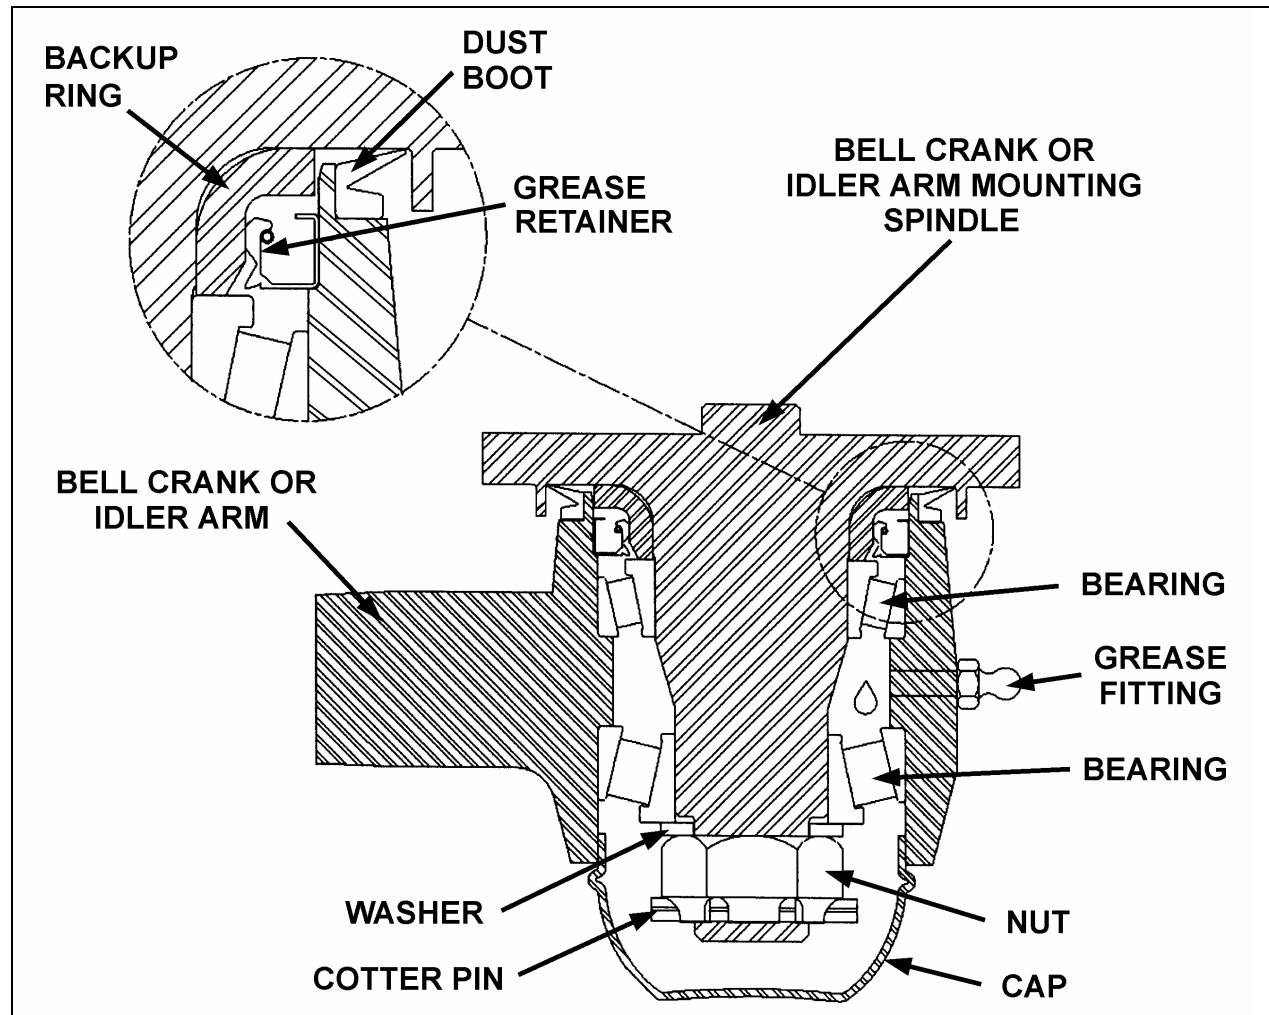

FIGURE 13: BELL CRANK AND IDLER ARM
2. Remove the cap (Fig. 13).
3. Remove the cotter pin, nut and thrust washer. Remove bearings, grease retainer, backup ring and the bell crank or idler arm from its mounting spindle (Fig. 13).
2. Install grease retainer and bearing in bell crank or idler arm eye (Fig. 13).
Note: Install grease retainer according to figure 13. Grease must be able to exit the bell crank or idler arm mechanism. For grease retainer installation use tool Prevost # 110683.
Note: Bend cotter pin around the nut (Fig. 13). Do not bend the cotter pin in the direction of the cap, because it may interfere with the cap.